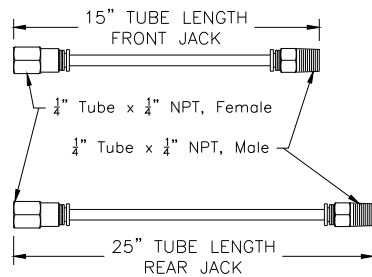

Figure 5
1. When coiled hoses are attached to the jacks with the clamps provided, cut the provided $\frac{1}{4}$ " OD plastic tubing into lengths shown in Figure 5 and attach fittings by pushing onto end of tubing.